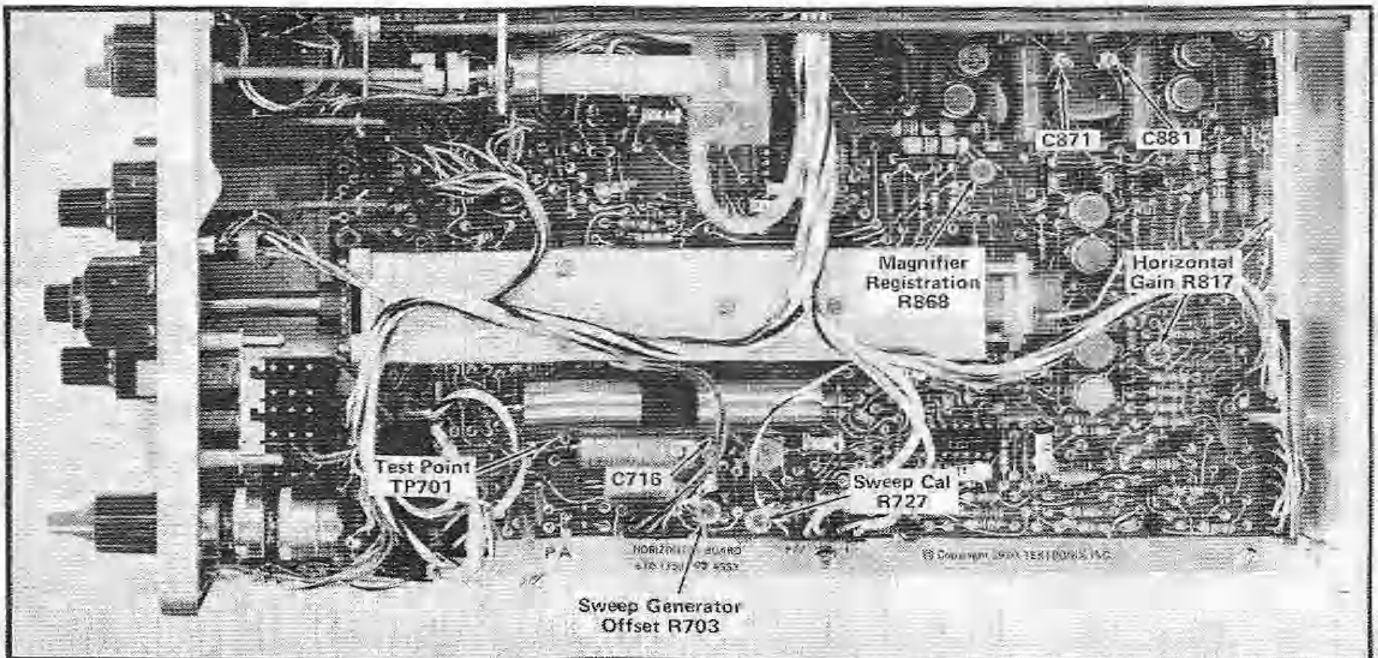

Fig. 5-12. Location of horizontal system adjustments and test points.
- b. Connect the tip of the 1X probe to TP701 (see Fig. 5-12).
f. ADJUST—Sweep Generator Offset adjustment R703 (see Fig. 5-12) to center the test oscilloscope display around the 0 V DC reference level.
- f. ADJUST—Sweep Cal adjustment R727 (see Fig. 5-12) for a sweep duration of 11 milliseconds.
- c. ADJUST—Horizontal Gain adjustment R817 (see Fig. 5-12) for one one-millisecond time mark per division.
f. ADJUST—Magnifier Registration adjustment R868 (see Fig. 5-12) to align the middle time mark with the center vertical graticule line.
- d. ADJUST—C716 (see Fig. 5-12) for two time marks per division.
h. ADJUST—C871 and C881 (see Fig. 5-12) for best timing and linearity excluding the first and last two divisions of the magnified sweep.
k. ADJUST—C871 and C881 (see Fig. 5-12) as necessary for the best compromise of timing and linearity between 1 μ s with 50X magnification and .2 μ s with 10X magnification.